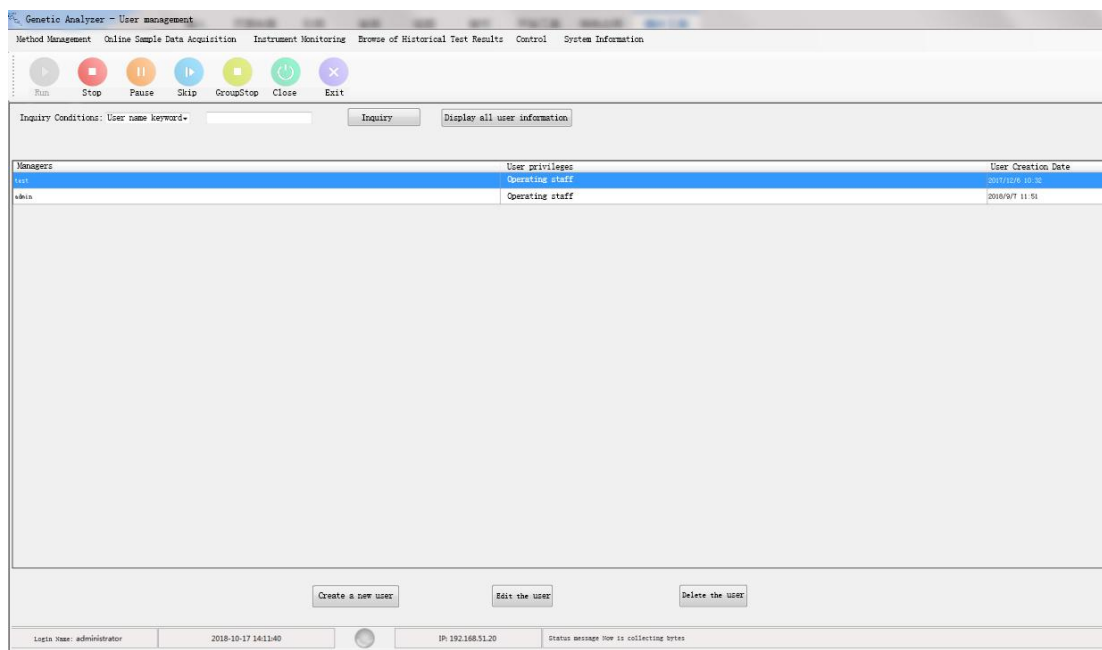

Figure 43. User Management for Managers
(1) Login the data acquisition software as an administrator, click "Method Management", "User Management" in the software menu in turn, and enter the "User Management Interface", as shown in Figure 43.